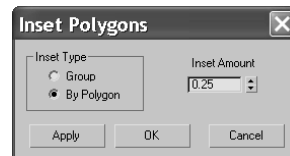

Figure 4.63
5. Select the polygon that represents the top drawer, as shown in Figure 4.63. Select the Slice Plane button in the Edit Geometry rollout. Rotate and move the Slice Plane gizmo so that it is vertical and centered on the polygon as shown here, and click Slice. Click the Slice Plane button to release the tool.